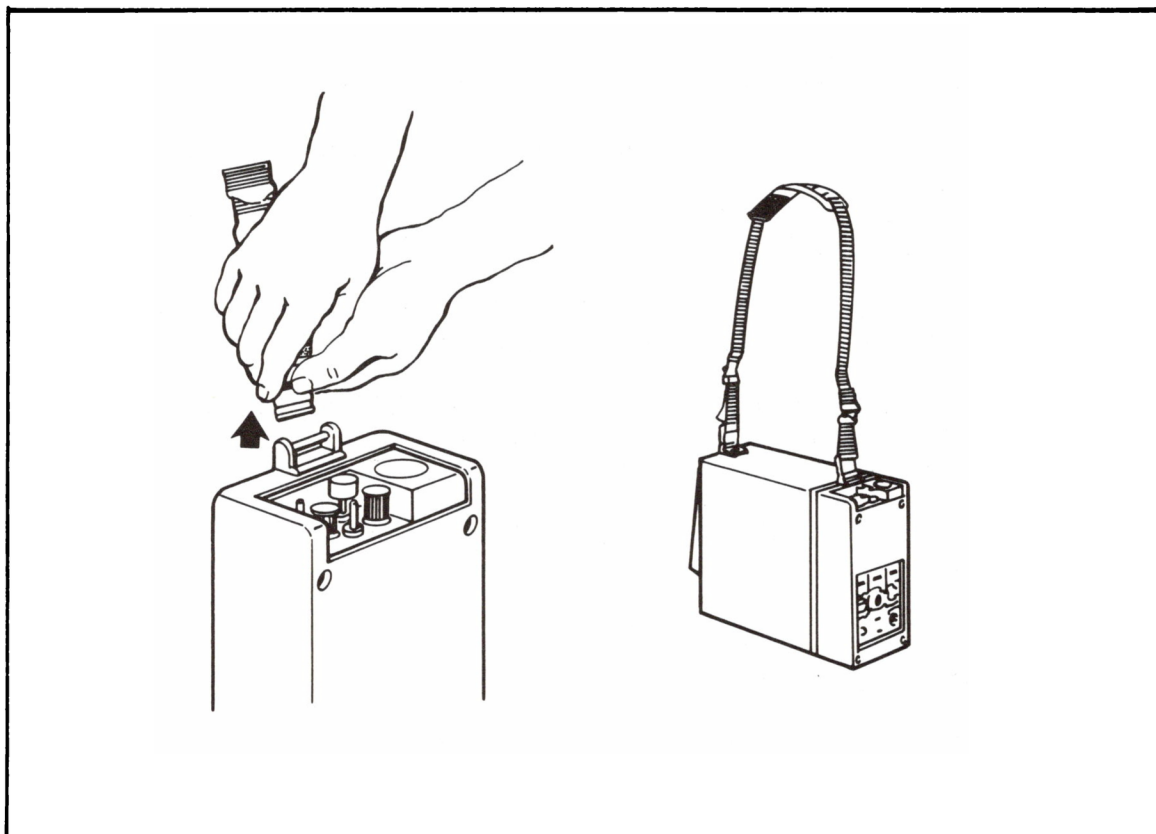

Figure 2-9. Attaching Strap Fixtures to Strap Mount Fixtures
STEP 2 Attach strap fixtures. Slide up fixtures as shown in Figure 2-9 and then attach the strap fixtures to the mount fixtures on the VTR and the video adapter.